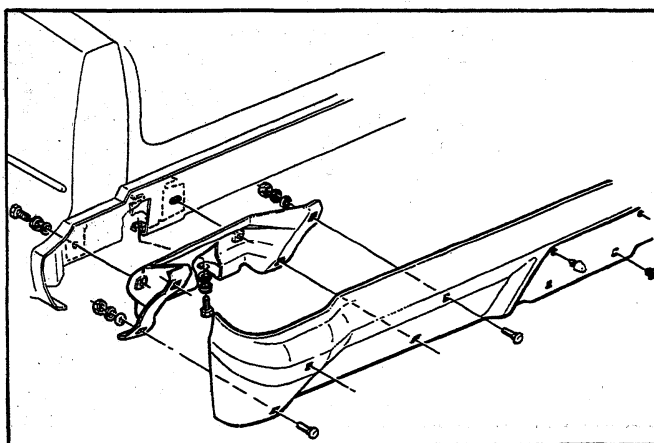

Fig. 6 - Rear Bumper Assembly - Chevy II
REAR BUMPER ASSEMBLY (Fig. 6)
1. Position brackets on face bar as shown in Figure 6 and install mounting bolts; tighten nuts securely.